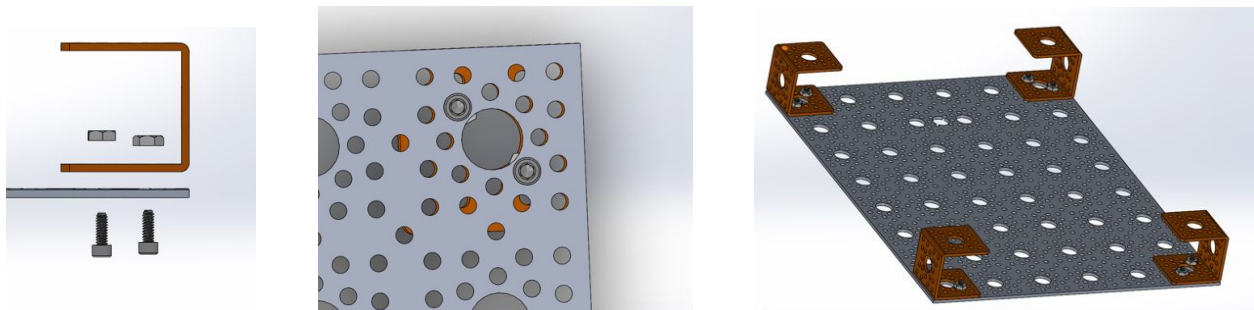

Figure 3: Attaching channels to aluminum plate
1. **Attach the channels to the Top panel:** Take the modified 9x12 Aluminum plate **S35A** and attach the four 1.5inch channel connectors **S1** using screws **B2** and hex nuts **B11** at each of the corners as shown in Figure 3. Make sure to use the inner circle for these screws and not the outer ones where there won't be enough clearance for the hex nut.